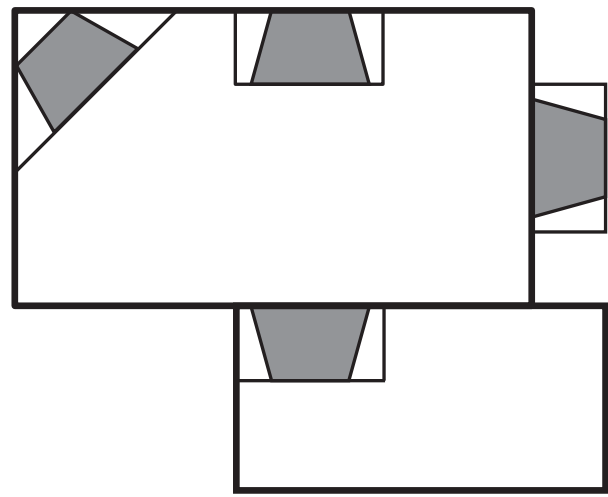

Figure 3 - Location of Firebox
- Minimize modifications to existing construction. Refer to *Figure 3* below for location suggestions.